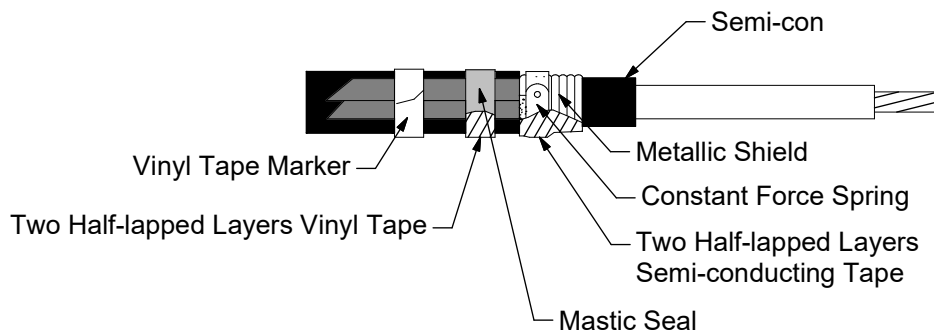

Figure 5A
- Wrap two half-lapped layers of vinyl tape around the mastic seal. Apply two half-lapped layers of semi-conducting tape over the constant force spring, and exposed metallic shield. Do not cover the exposed semi-con insulation shield. See Figure 5A.